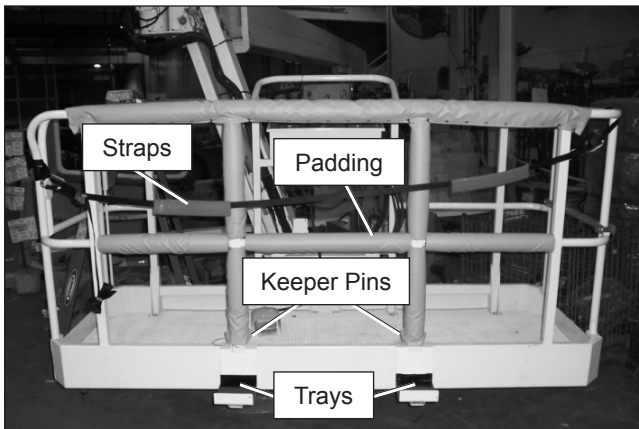

Figure 7.26 – Platform
1. Inspect the glazier trays (refer to Figure 7.26) to make sure they are in good condition and are not bent or distorted.